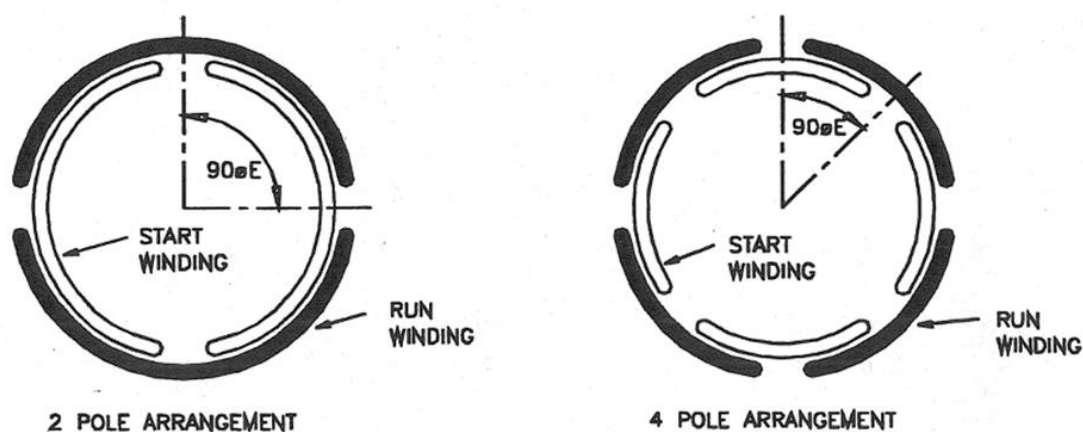

Figure 3 - Position of the start and run windings
6. There are two completely separate groups of coils - one group is known as the RUN winding and the other is known as the START (or auxiliary) winding, and the number of coils in each group must be the same. The number of gangs of coils connected in series for each group determines the number of magnetic poles in the stator. The physical position of the gangs of coils in the start and run windings in a 4 pole split phase motor are shown in Figure 3.